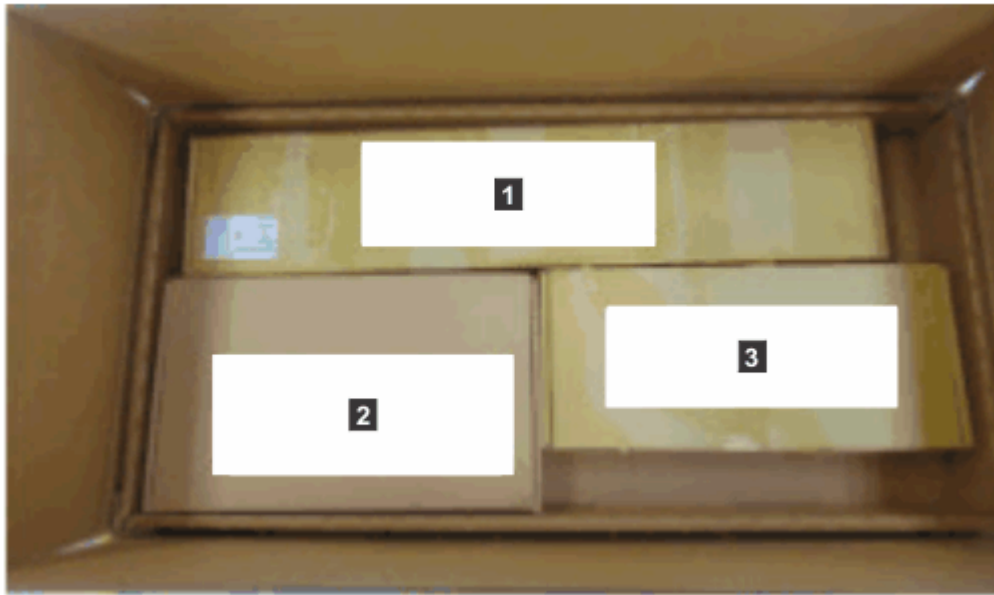

Figure 27. Tray containing expansion enclosure parts
The 2077-92F expansion enclosure and most parts are shipped together in one large box. A tray on the top of the enclosure contains the front fascia (1U and 4U pieces), the cable management arm (CMA), and the slide rail kit; you must install these parts. Figure 27 on page 40 shows how the enclosure is packaged for shipment.
6. Remove the support rail kit from the box in which it was shipped (**1**), as shown in Figure 27 on page 40).
17. Remove the cable management arm assembly from its packaging (2 in Figure 27 on page 40).